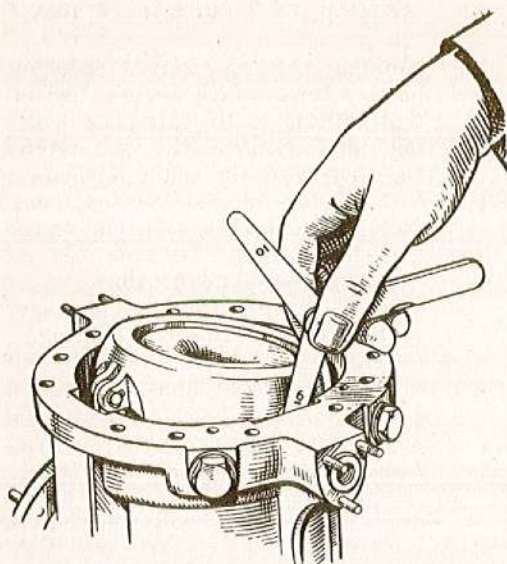

Fig. 4. Clearance check between control ring face and pump housing
3. Check the clearance between the control ring face and the pump housing at the trunnion pins by inserting a feeler gauge as shown in fig. 4. The clearance obtained should be 0.006 in. to 0.010 in.